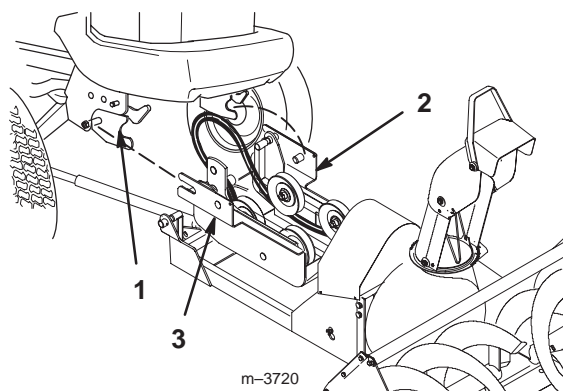

Figure 28
13. Remove the clevis pins from the pulley box locking holes (Fig. 28). Open the latches of the front Attach-A-Matic™, remove the pulley box, and slide it into snowthrower frame.